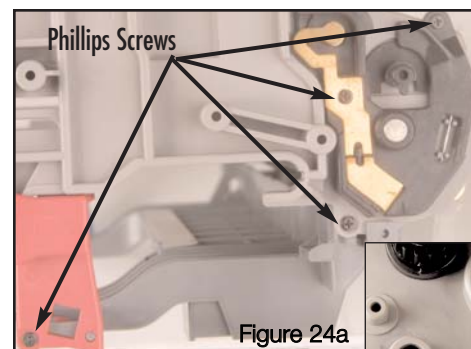
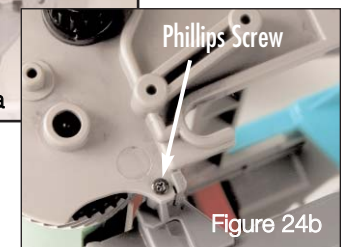

Figure 24a
Figure 24b
2. Using a jewelers Phillips screwdriver, remove the four Phillips screws, located on the contact side of the drum unit, see Figure 24a. Then remove the Phillips screw located on the drive side of the drum unit, see Figure 24b.